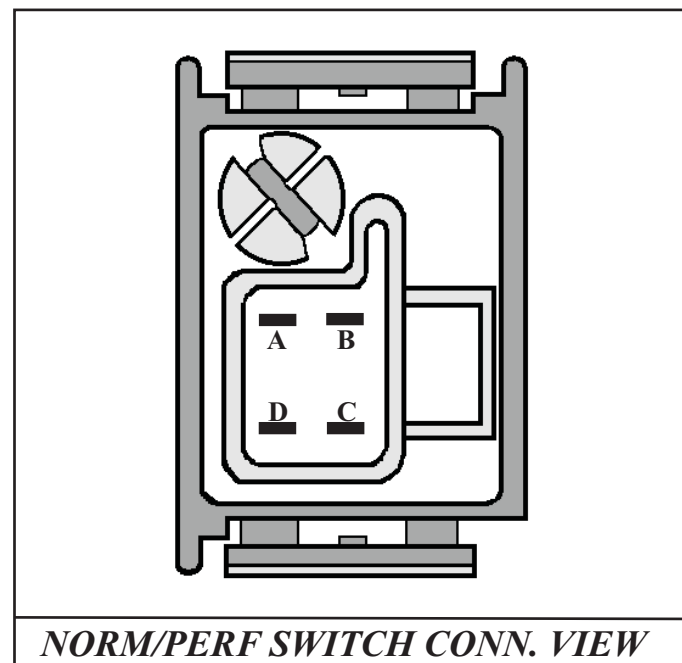

Figure 38
- 2) Place the positive lead to terminal A (See Figure 38).